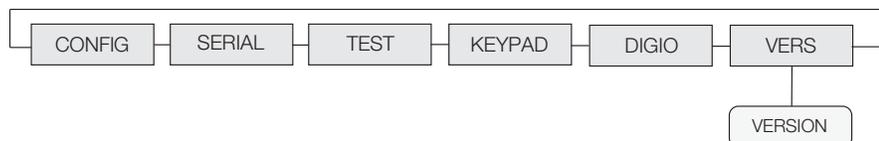

Figure 3-10. Version Menu
When *Version* is selected from the main menu choices (Figure 3-10), the current software version is shown on the remote display.
2. To begin using Revolution, click **New** in the File menu (see Figure 3-10 arrow). A select indicator screen appears. Select the *Laser LT* to access and press OK.